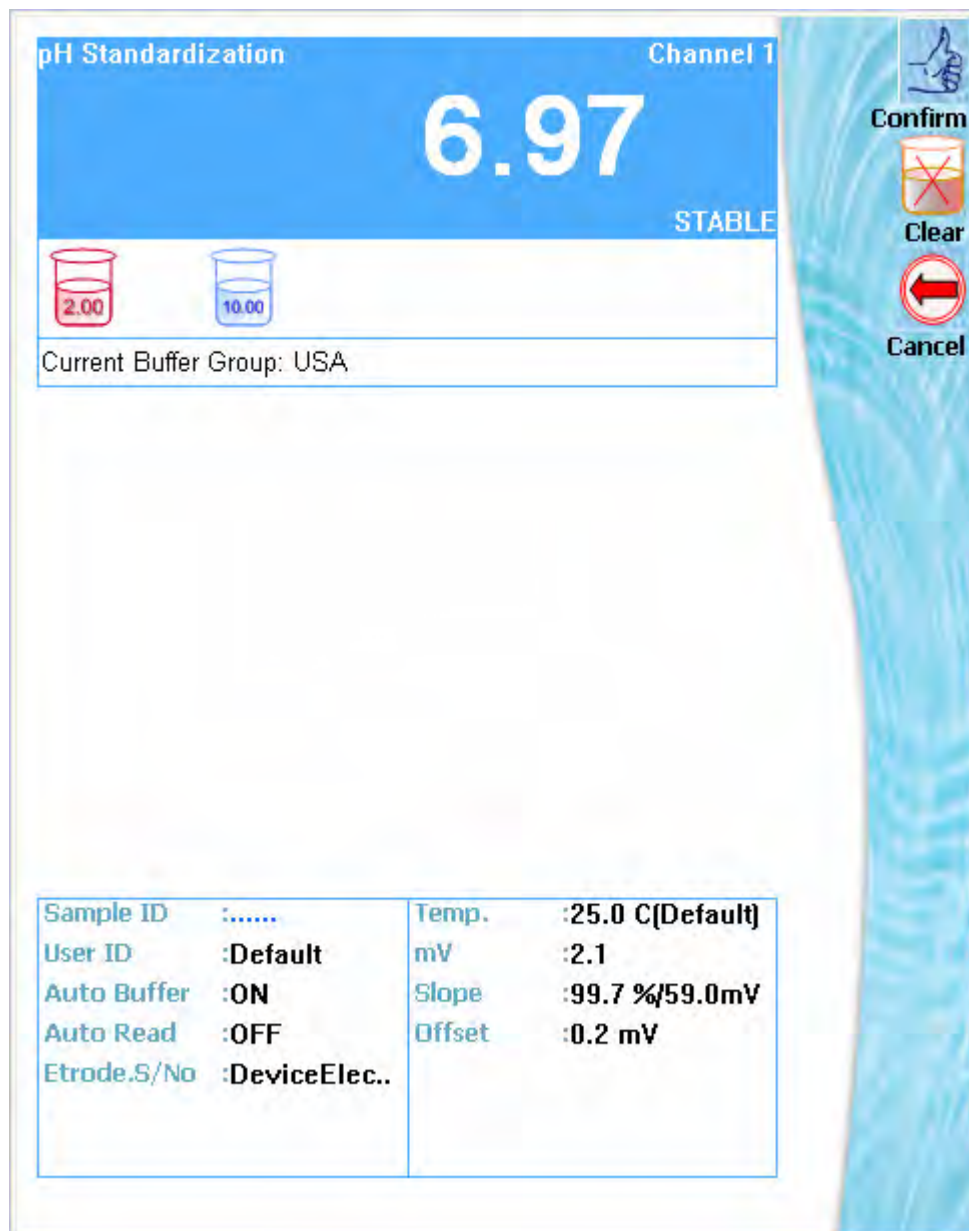

Figure 27 : Standardization in progress
12. The **Electrode Configuration Dialog** closes. Standardization process begins for the selected channel/electrode using the selected buffer. (Figure 27)